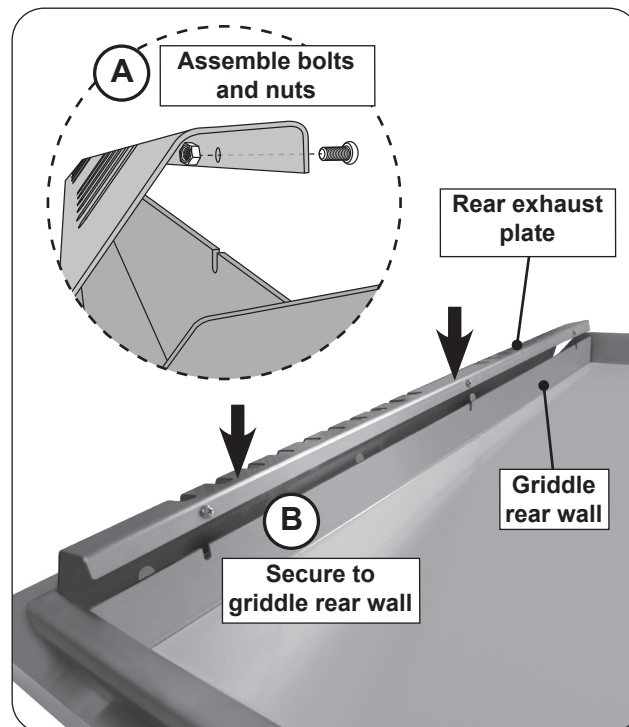

Fig. 31-3 Install rear exhaust plate
1. Assemble the provided bolts and nuts (loosely) to the three holes on the rear exhaust plate as shown in Fig. 31-3, A.
2. Align the exhaust plate with the three cutouts on the griddle rear wall and fasten (see Fig. 31-3, B).